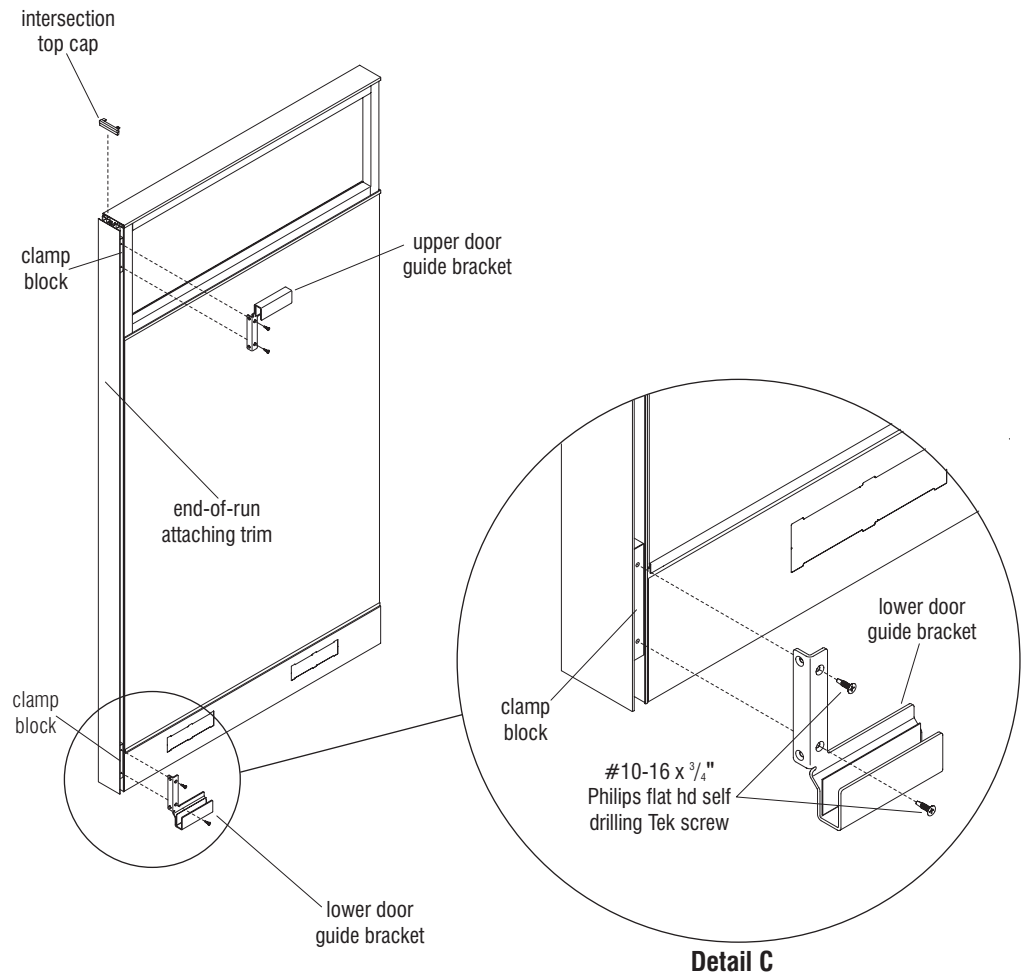

Figure 2
- At the location where a rolling door is to be installed, remove the intersection top cap if not already done so (Figure 2).
- At the isle side of the end-of-run trim, position two clamp blocks as illustrated, with mounting holes showing out and insert blocks into the opening as shown (Detail C). Place one block at the top of the attaching trim and slide one bracket to the bottom of the trim (Figure 2 & Detail B).
- Next, correctly position the upper and lower door guide brackets in place as illustrated and install using two #10-16 x 3/4" Phillips flat head self-drilling Tek Screws. Do not tighten completely at this time (Figure 2, Detail C).